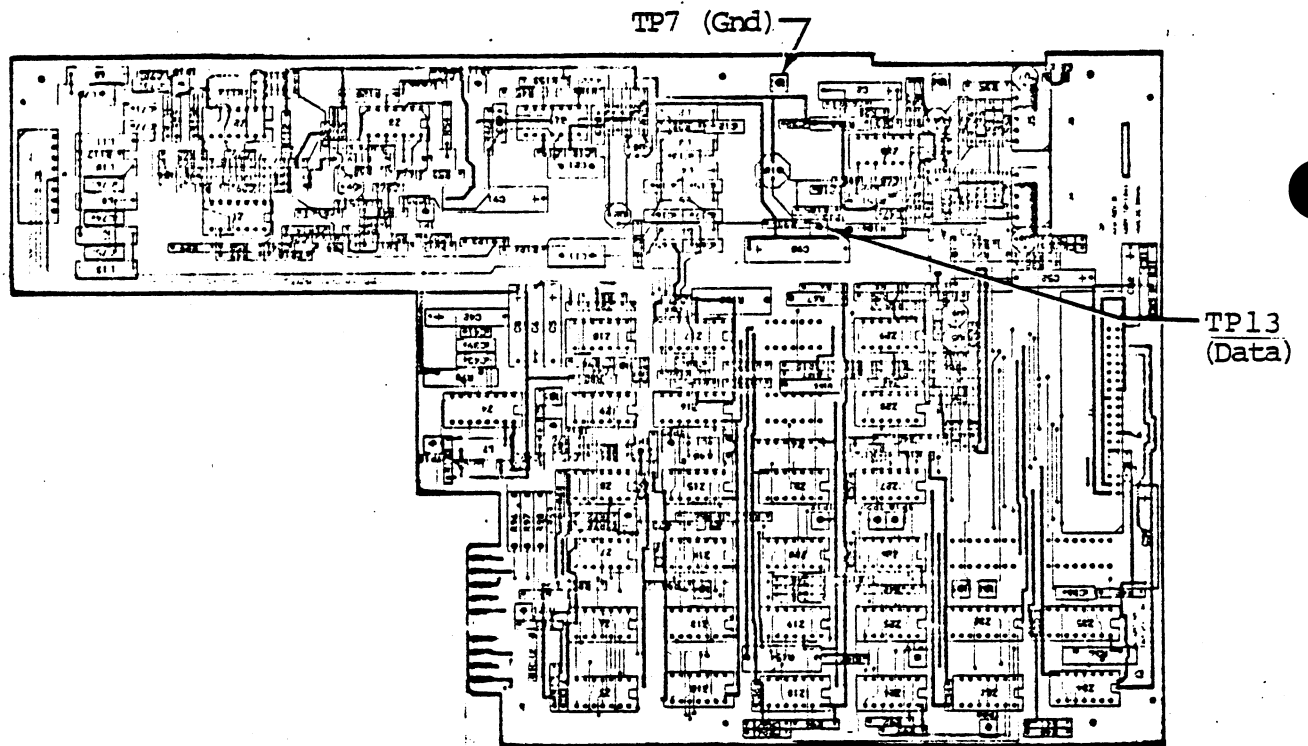

Figure 4-9. Component Locations on Analog Board (AlA1).
- c. Sync the oscilloscope to TP10 on the analog board (Index). See Figure 4-9. Set the time base to 20 msec per division. This will display over one revolution.
- d. Connect one probe to TP13. Connect probe to TP7 (ground) on the analog board (Figure 4-9). Set the input to AC. Set the vertical deflection to 100 MV/dev.